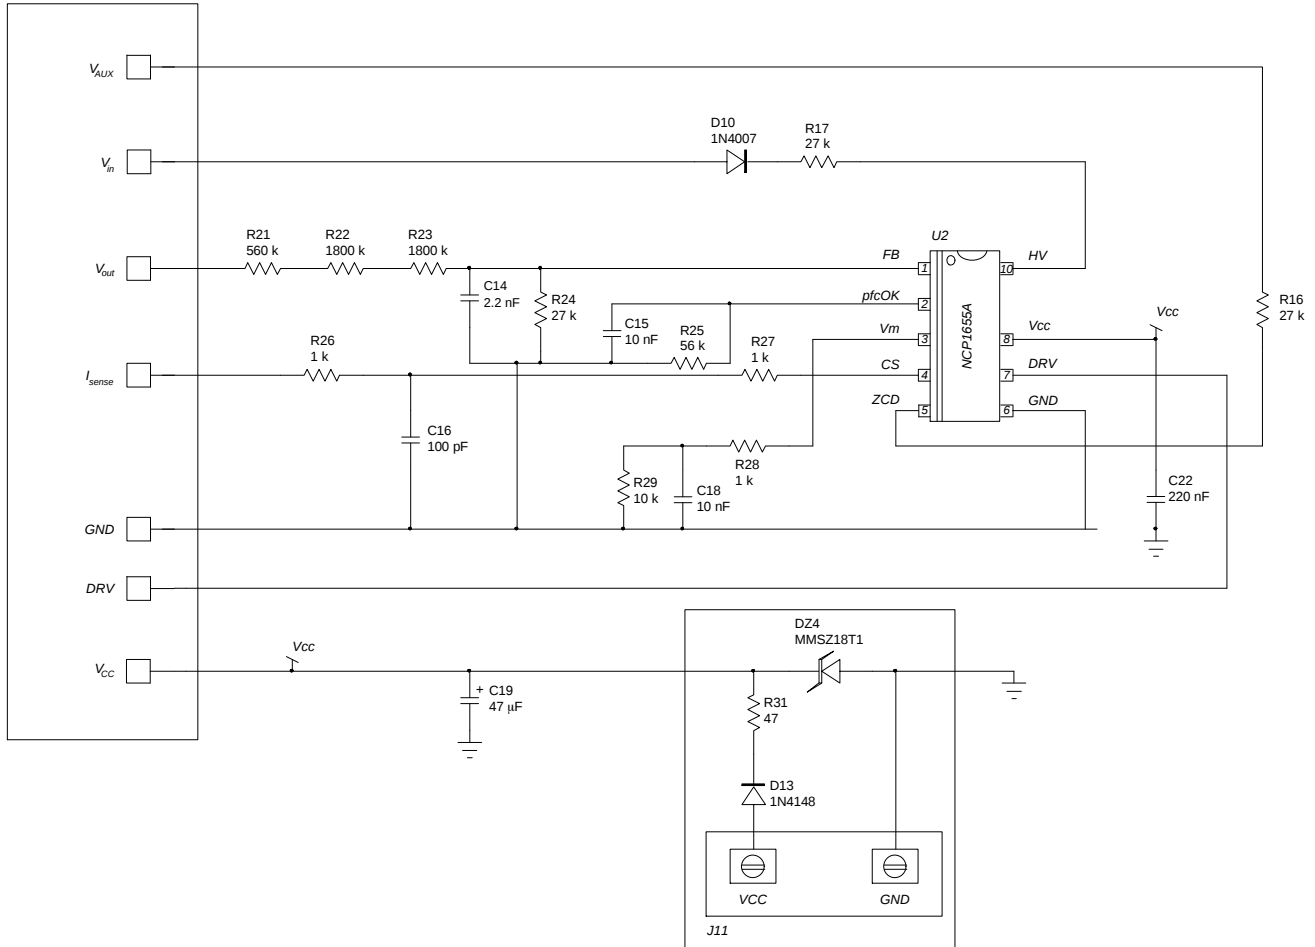

Figure 3. Control Section of the Application Schematic
*As shown by Figure 3, the 18-V maximum value is due to the Zener diode (D_{Z4}) which is implemented in the board to protect it from the excessive voltages which could be applied to the V_{CC} socket. However, the NCP1655A V_{CC} pin can receive a voltage as high as 35 V.